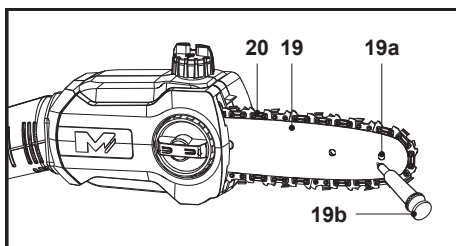

Fig. 43
2. Using a disposable lube gun, insert the needle nose into the lubrication hole (19b) (Fig. 43) and inject grease until it appears at the outside edge of the sprocket wheel (19a).